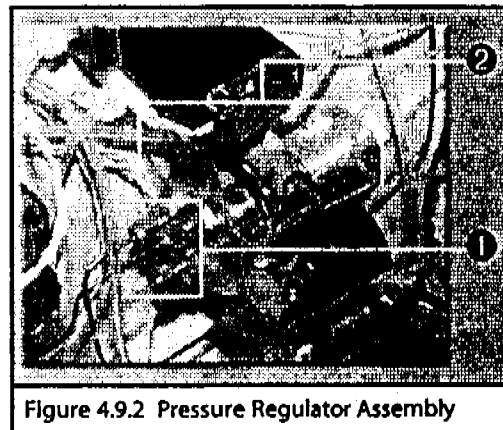

Figure 4.9.2 Pressure Regulator Assembly
6. Detach the three 5/16" brass nuts from the back of the pressure regulator (❶, Figure 4.9.2).
8. Remove the pressure regulator assembly (❷, Figure 4.9.2) from the sample module.